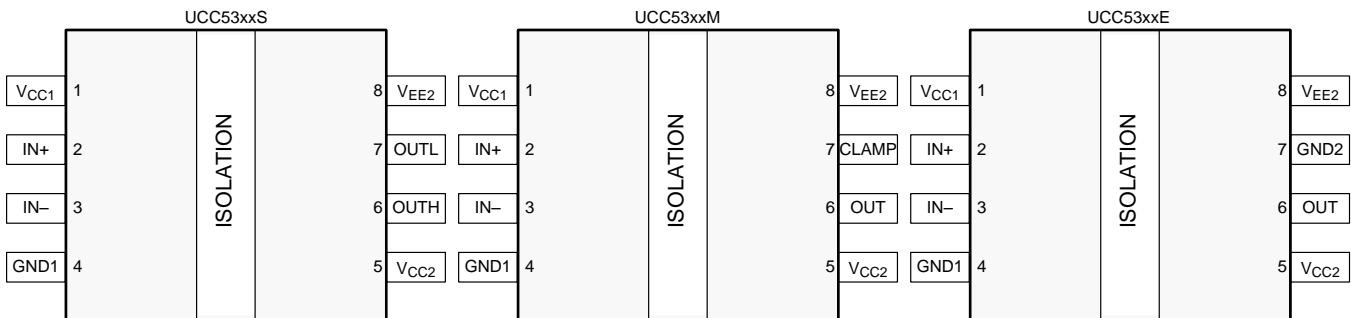

Figure 1. UCC53x0x Pin Configurations
Figure 1 shows the UCC53x0 pin configurations in an 8-pin SOIC (D) package.